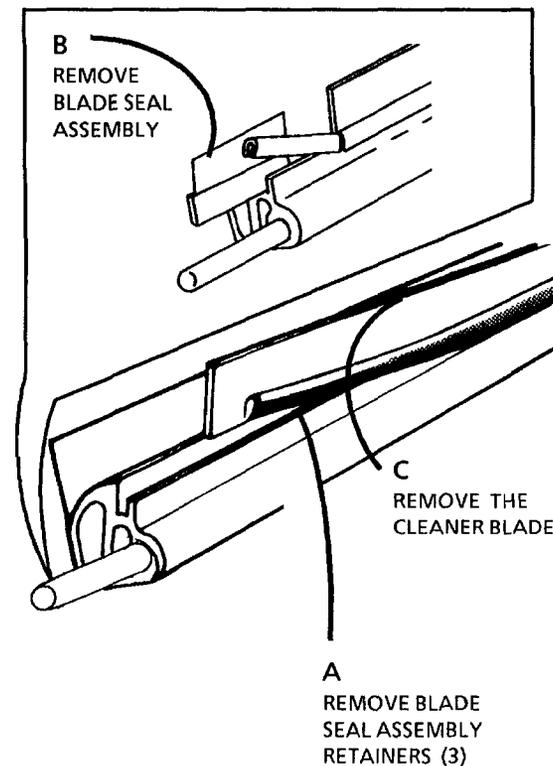

Figure 3. Remove the Cleaner Blade
5. (FIGURE 3): REMOVE THE CLEANER BLADE